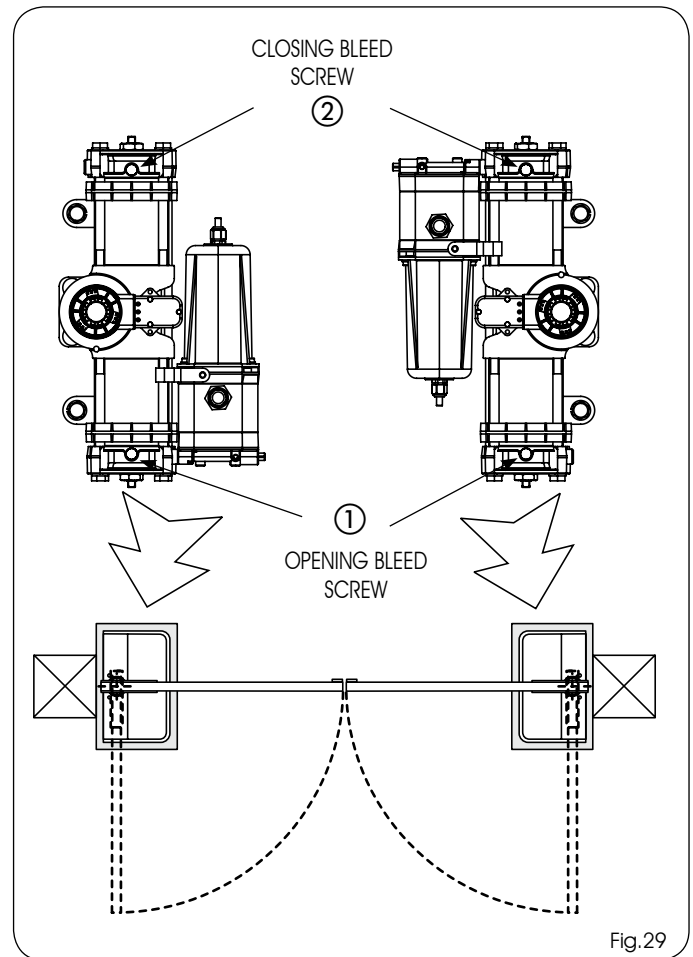

Fig.29
- 2) While the leaf is moving, loosen the opening bleed screw (Fig.29 ref.①)
- 6) While the leaf is moving, loosen the closing bleed screw (Fig.29 ref.②)